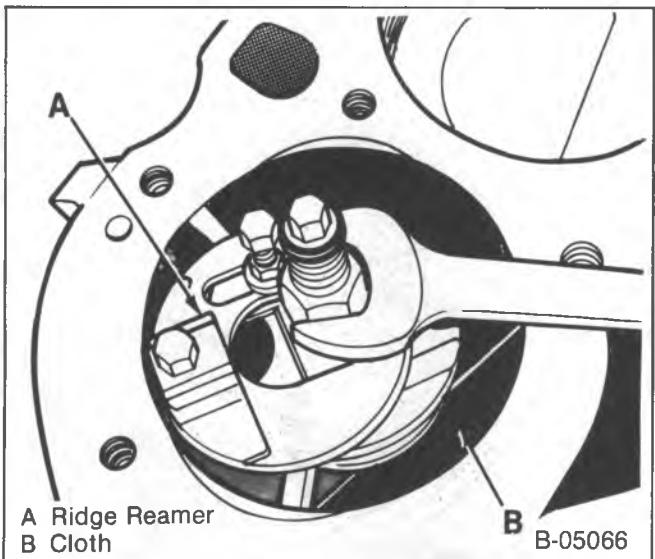
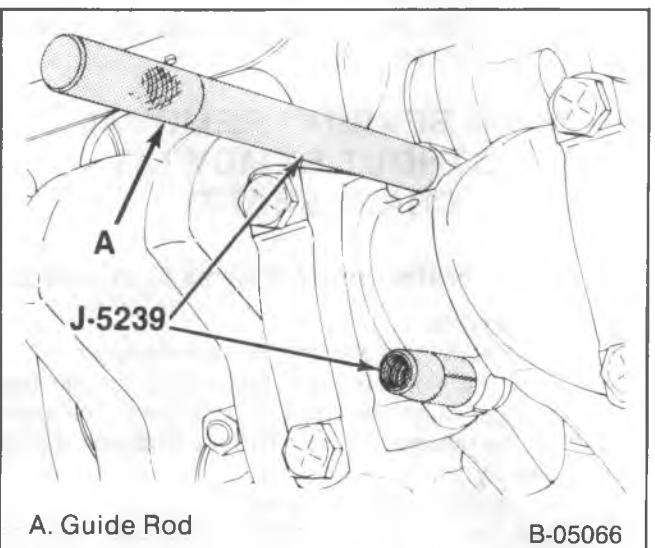

Figure 16—Removing the Cylinder Ridge
Figure 17—Removing the Piston and Connecting Rod
- Using the manufacturer's directions, install a ridge reamer into the top of the cylinder (figure 16). Perform the cutting operation.
2. Connecting rod caps (110) as follows:
- Make note of the arrangement of the connecting rod (108) markings, to insure that they will be returned to their proper position during assembly. Mark the connecting rods with a scratch awl if necessary.
- Remove the nuts (111).
- To avoid mismatching the connecting rods and connecting rod caps, remove only one connecting rod cap at a time. Place the piston (107) at the bottom of its stroke.
- Install J-5239 onto the studs (109) (figure 17).
- Push on the guide rod (item A, figure 17) to push the piston and connecting rod out. Use the guide rod to prevent the connecting rod from scoring the cylinder bore.
- Loosely assemble the connecting rod cap (110) onto the connecting rod.